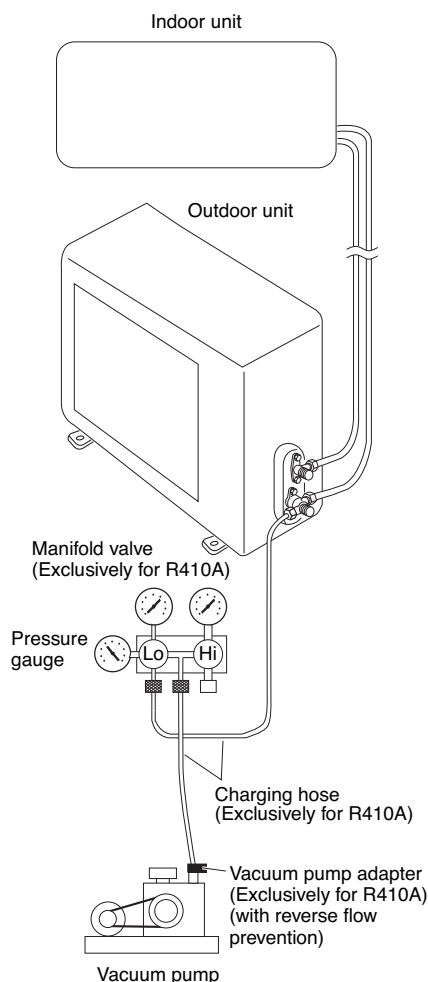

Fig. 35
- (1) Check that each tube (both narrow and wide tubes) between the indoor and outdoor units have been properly connected and all wiring for the test run has been completed. Note that both narrow and wide tube service valves on the outdoor unit are kept closed at this stage.
- (2) Using an adjustable wrench or box wrench, remove the valve caps from the service on both the narrow and wide tubes.
- (3) Connect a vacuum pump and a manifold valve (with pressure gauges) to the service port on the wide tube service valve. (Fig. 35)